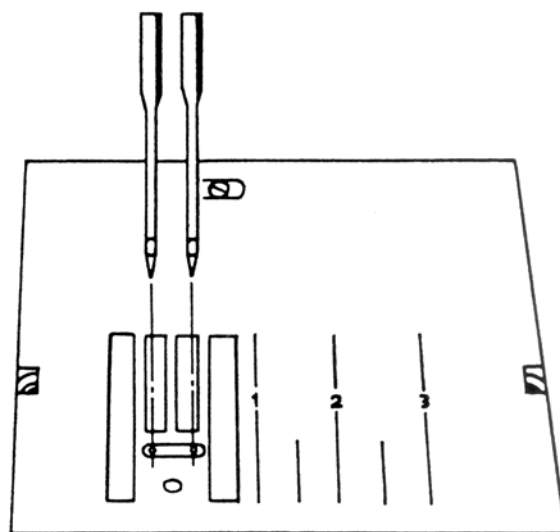

Fig. 25
The widest zigzag stitches must have the same distance from the left and right needle hole edges (fig. 25).
- Turn the handwheel and check the left and right distance (fig. 25).